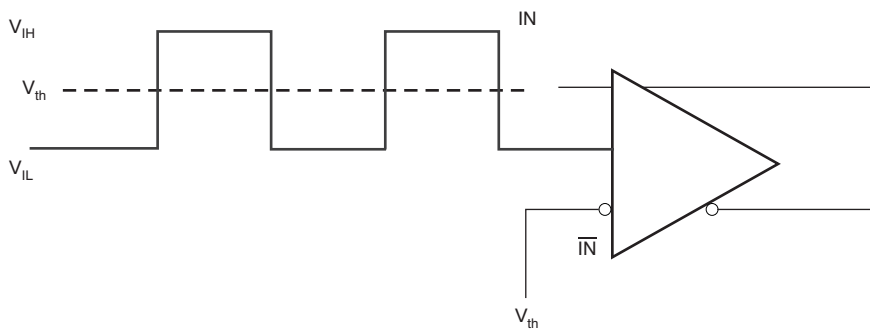
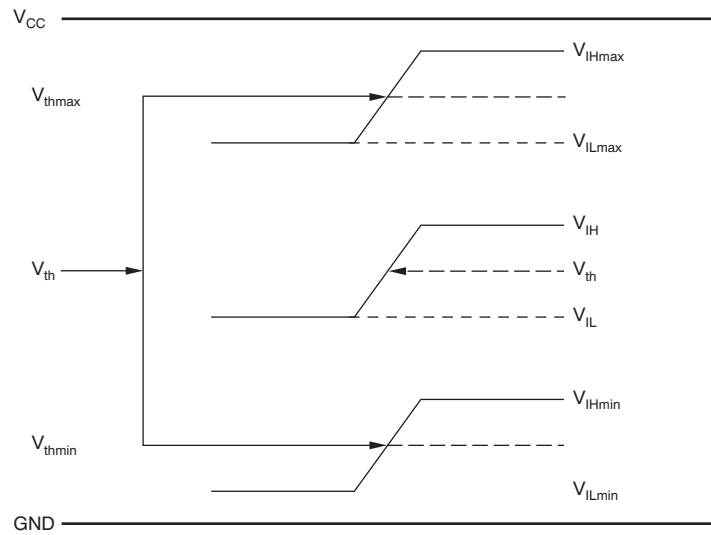

Figure 5. DC-Coupled LVCMOS Input During Device Test
Figure 6. V_{th} Variation over LVCMOS Levels
(1) Figure 5 and Figure 6 show DC test setup.
Figure 5 through Figure 11 show how the device should be set up for a variety of test configurations.